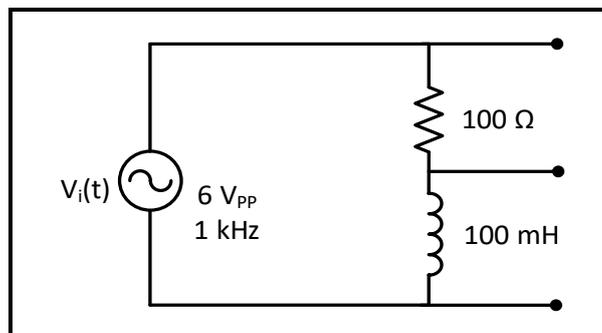

Figure 8.13
1. Connect the circuit of Figure 8.13, set V_{in} to sinusoidal voltage at $6 V_{pp}$, and $f = 1 \text{ kHz}$.